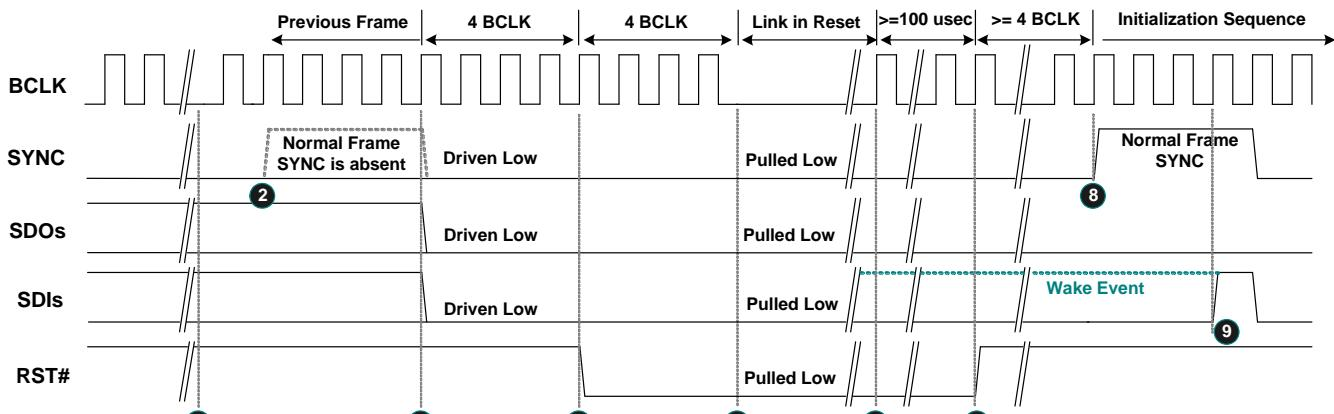

Figure 16. Link Reset Timing
3. Software initiates power management sequences. Figure 16, page 25, shows the ‘Link Reset’ timing including the ‘Enter’ sequence (❶~❽) and ‘Exit’ sequence (❾~❿)